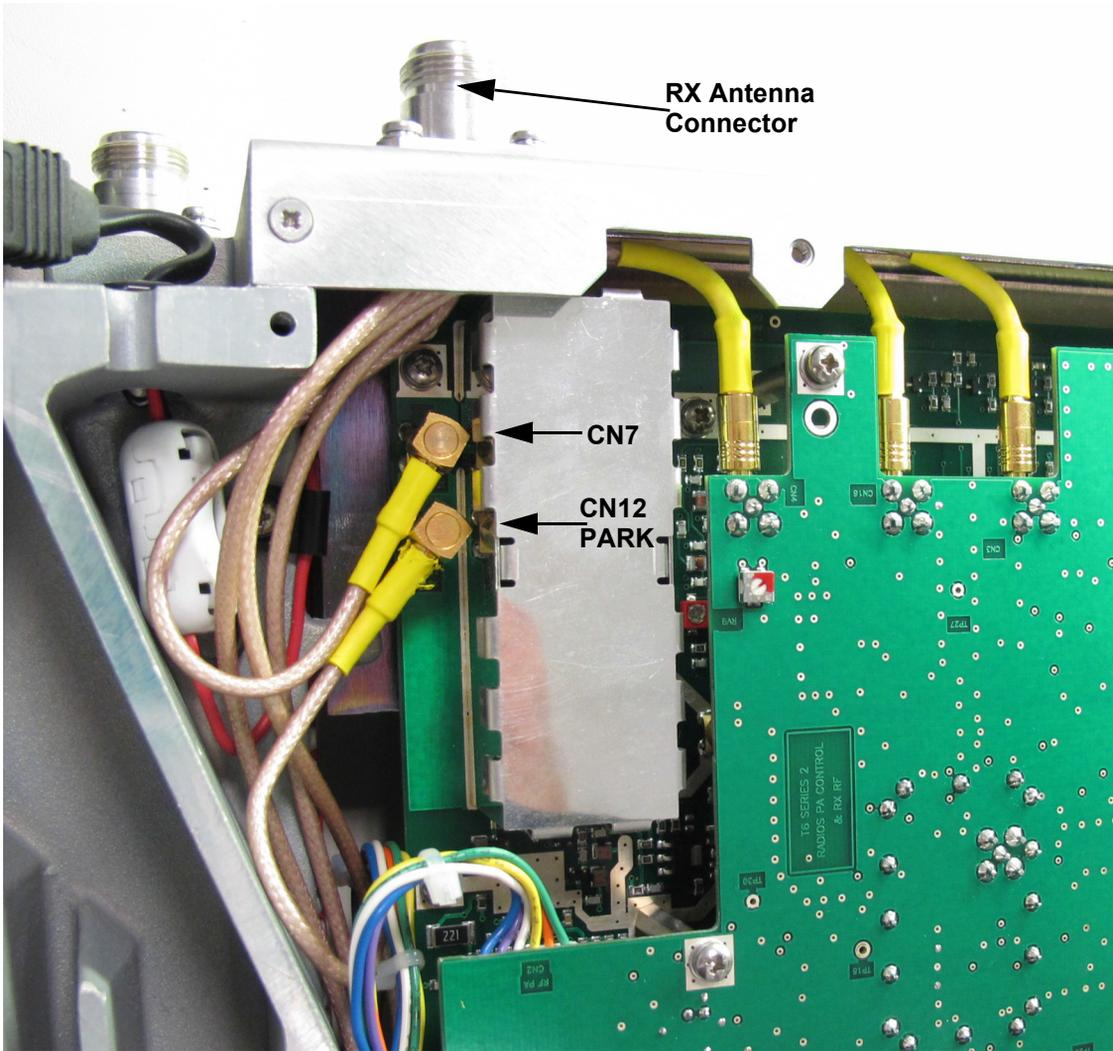

Fig 4-8 Location of CN7 and CN12
- (1) Ensure that no input supplies are connected to the transceiver.
- (2) Remove the 15 screws securing the transceiver's bottom cover.
- (3) With the cover removed locate the PA Control/Rx RF module.
- (4) Locate CN7 and CN12 on the PA Control/Rx RF module (see Fig 4-8).
- (5) For single antenna configuration, connect the Rx antenna RF cable to CN12 (Park). Connect the adjacent RF cable from the PA module to CN7.
- (6) For two antenna configuration, connect the Rx antenna RF cable to CN7. Connect the adjacent RF cable from the PA module to CN12 (Park).
- (7) Replace the transceiver's bottom cover.